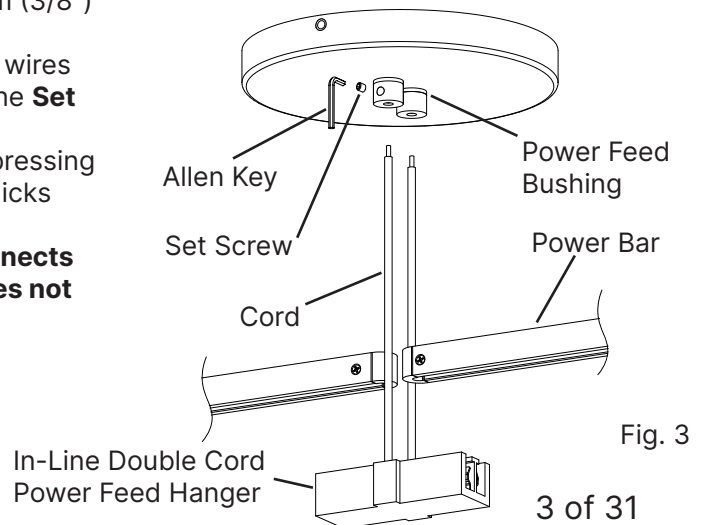

Fig. 3
3. Press down firmly on the top of the **Power Bar**, while pressing up on the bottom of the **Hanger**, until the Power Bar clicks into place (Fig. 3). Repeat for the second Power Bar.